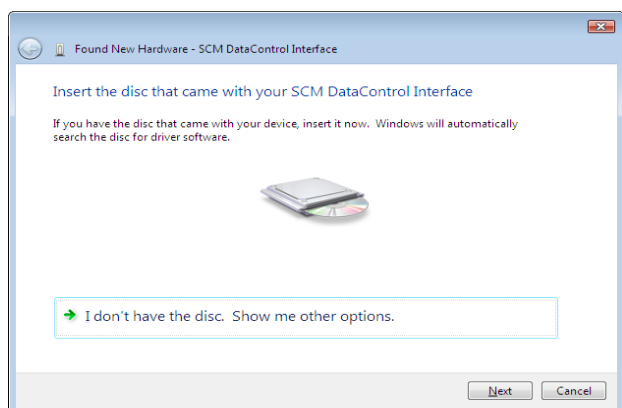

Figure 3-5
- Select "Locate and install driver software" from the options available and then click "Next" to see figure 3-5 appearing.